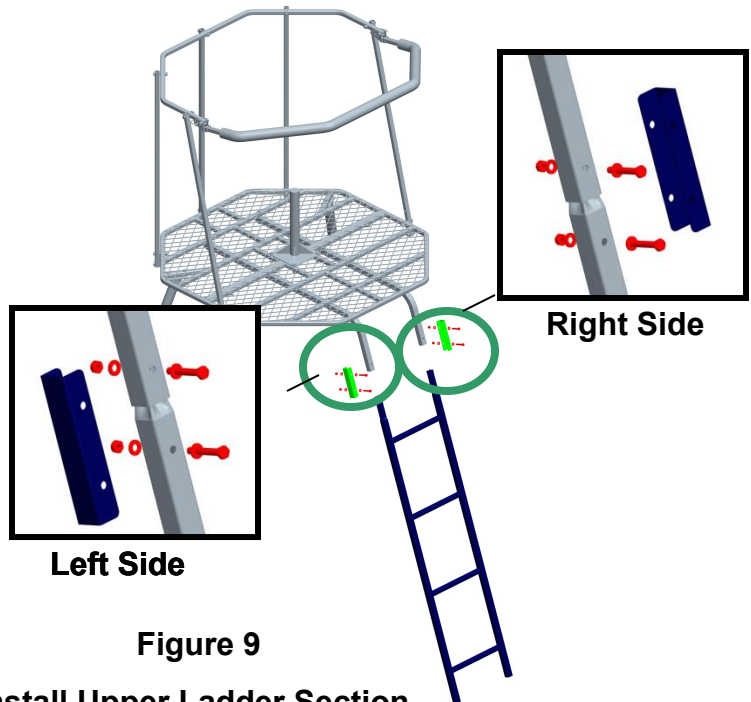

Figure 9
Locate Upper Ladder Section #3 (#10) and two U-Brackets (#20). Install the Upper Ladder Section #3 (#10) and two U-Brackets (#20) onto the Ladder Supports (#4) using four (4) M6x40 Bolts, eight (8) Steel Washers and four (4) Locknuts as shown in Figure 9.